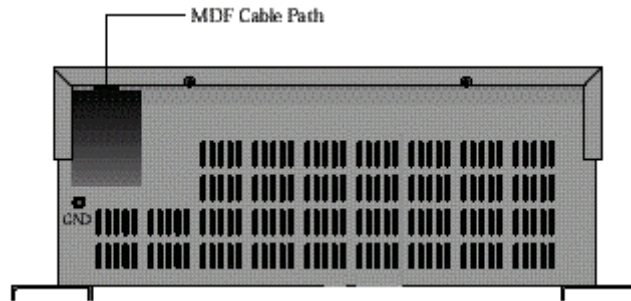

FIGURE 2-7 BOTTOM SIDE OF BASIC KSU
7. Connect MDF cable through appropriate path. (See figure 2-7 & 2-8)
All connection to the iDCS 100 system are made by way of a customer-provided main distribution frame (MDF). The KSU and expansion kit are each connected to the MDF using a 25 pair female amphenol-type cable(with the exception of the TEPRI, ITM3 cards). These cables can be routed into the KSU cabinet from below. (See Figure 2-7 & 2-8)